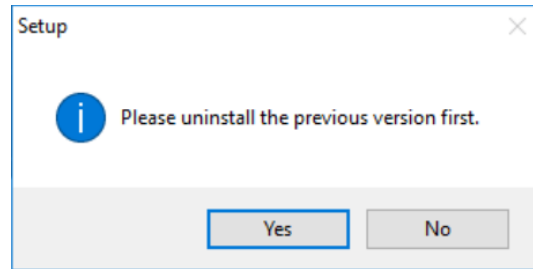

Figure 2.9: Uninstall Window
4. Once downloaded, run the file. It will immediately detect the previous version and present the option of uninstalling it (Fig. 2.9). **Click Yes.**